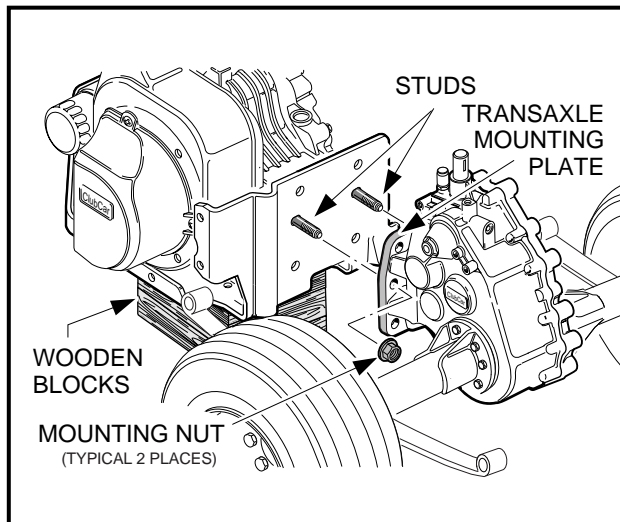

Figure 16-85 Transaxle Mounting
3. Position the transaxle mounting plate on the two mounting studs at the rear of the engine, and then install the two mounting nuts (**Figure 16-85, Page 16-35**).